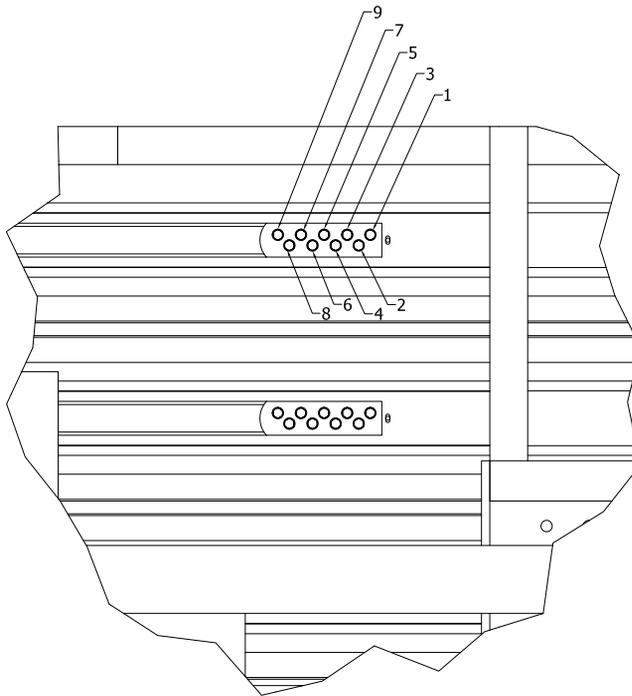

Figure 42
11. Tighten bolts in sequence 1,2,3...9 (Figure 42). Cycle through tightening two times to assure proper torque.